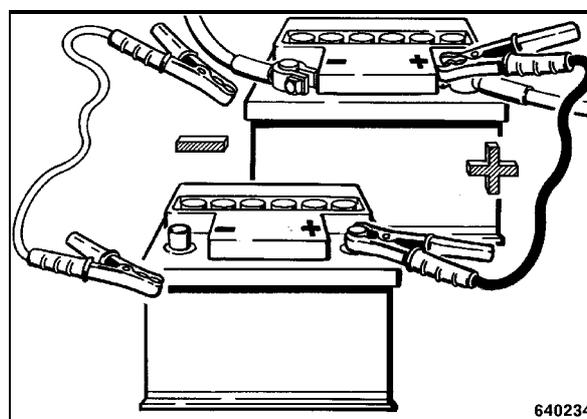

Fig. 38
- Connect the plus pole of the external battery with the plus pole of the starter battery with one of the jump wires (Fig. 38).